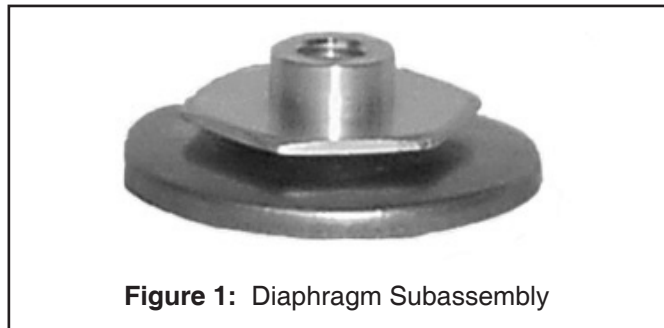
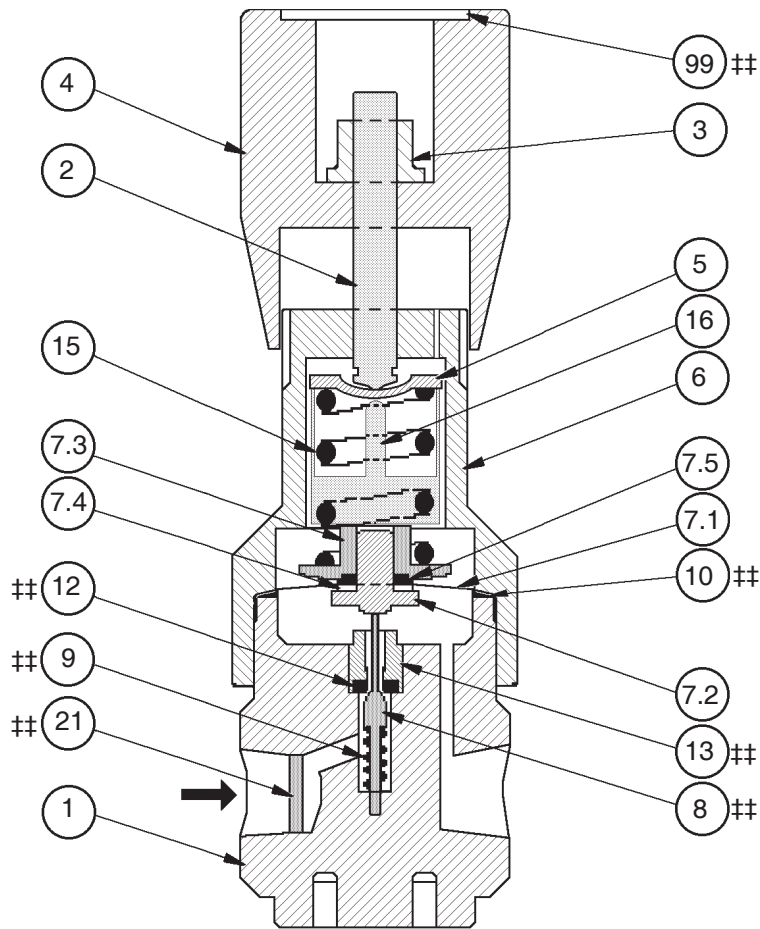

Figure 1: Diaphragm Subassembly
Figure 2: Model P1
3. Refer to Figure 2 for Model P1 basic regulator and Figure 1 for the diaphragm subassembly.